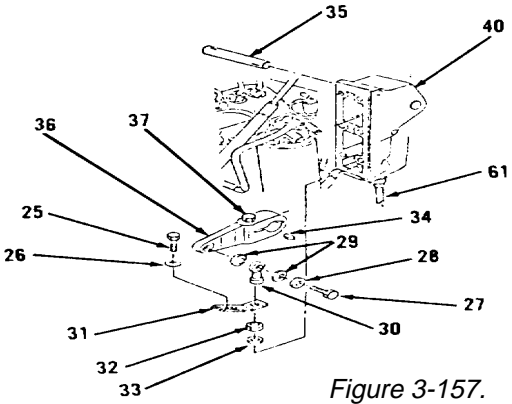
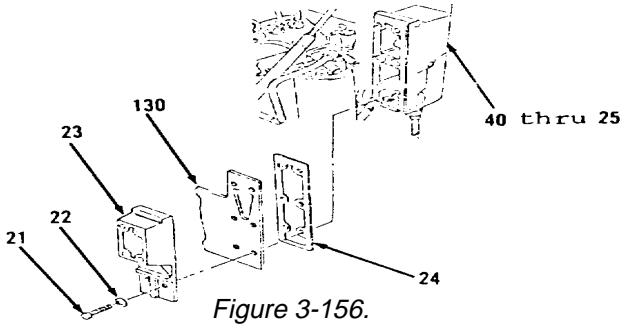
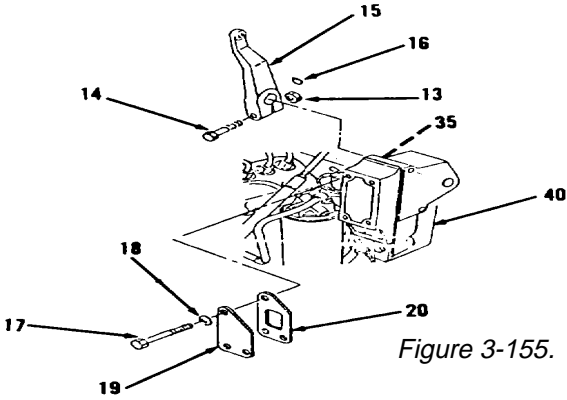

Figure 3-157.
Figure 3-156.
Figure 3-155.
- 49. Position shaft (35) in housing (40, Figure 3-157).
- 50. Install key (34) in shaft (35).
- 51. Install lever (36) on shaft (35) in housing (40).
- 52. Install shaft (35) into housing (40).
- 53. Tighten bolt (37).
- 54. Position cable (61) in housing (40).
- 55. Install two nuts (33).
- 56. Install nut (32), actuator (31) and rod end (30) on cable (61).
- 57. Aline lever (36) and rod end (30).
- 58. Install two springs (29), washer (28) and bolt (27).
- 59. Install nut (26) and bolt (25) in actuator (31).
- 60. Position items 40 thru 25 as an assembly, new gasket (24) and housing (23) on cover (130, Figure 3-156).
- 61. Install two washers (22) and bolts (21).
- 62. Install key (16) in shaft (35, Figure 3-155).
- 63. Install lever (15) on shaft (35).
- 64. Install bolt (14) and nut (13).